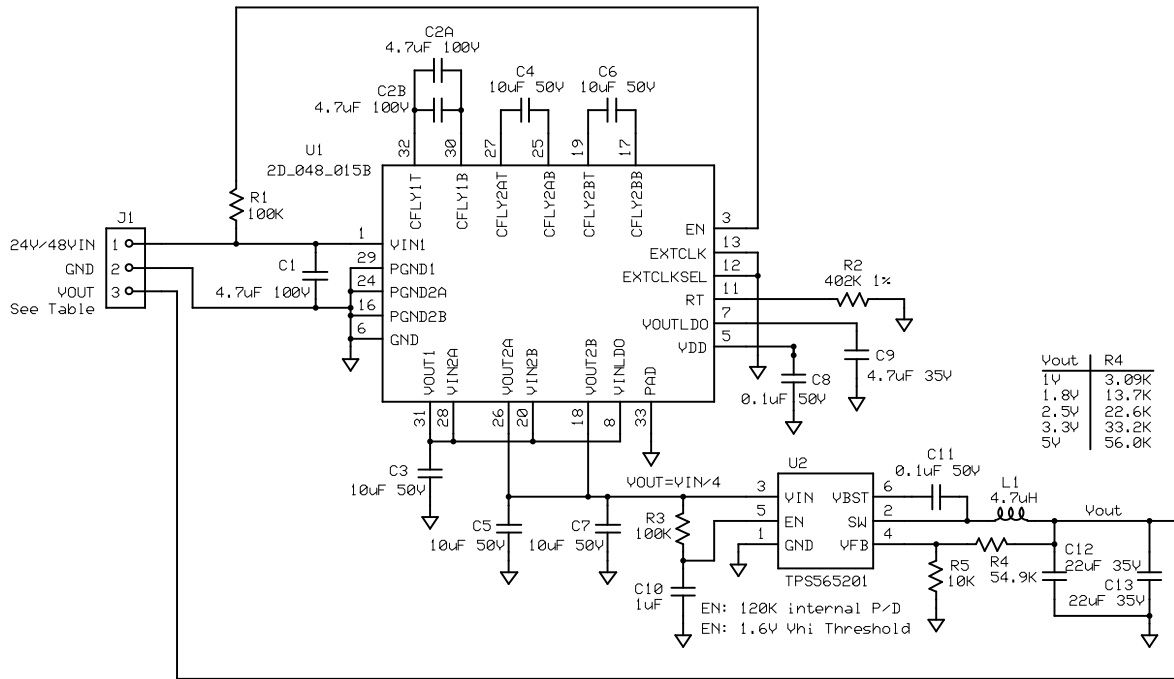

Figure 13: MxC 292 +5V Buck Reg. Output EVB Schematic
- 3) Other buck regulator output voltages are available by changing R4. Refer to the VOUT Table in Figures 13 and 14.